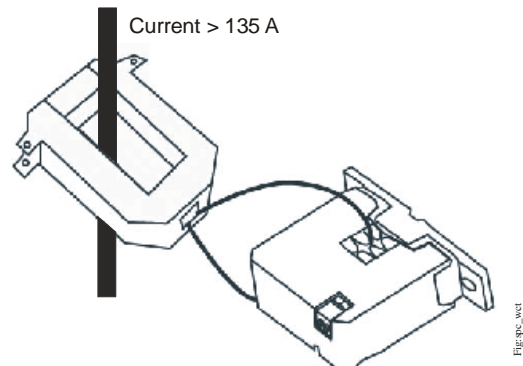

Figure 5: CSD with CT Transformer
Use a 5 A Current Transformer (CT) to reduce the current passing through the CSD as shown in Figure 5. Run the current transformer secondary wire through the sensing hole. Terminate the 2 secondary wires of the 5 A current transformer to each other, and then install the 5 A current transformer on the monitored conductor.